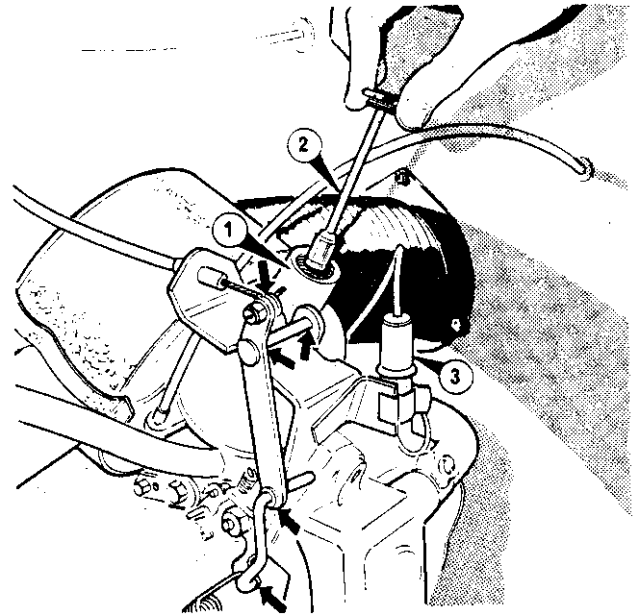

Figure 5 Carburettor - lubrication
1. Unscrew and withdraw the plug and piston from the top of the suction chamber (figure 5)
Using an oil can, lubricate the accelerator linkages on the carburettor. Wipe away surplus oil (figure 5)